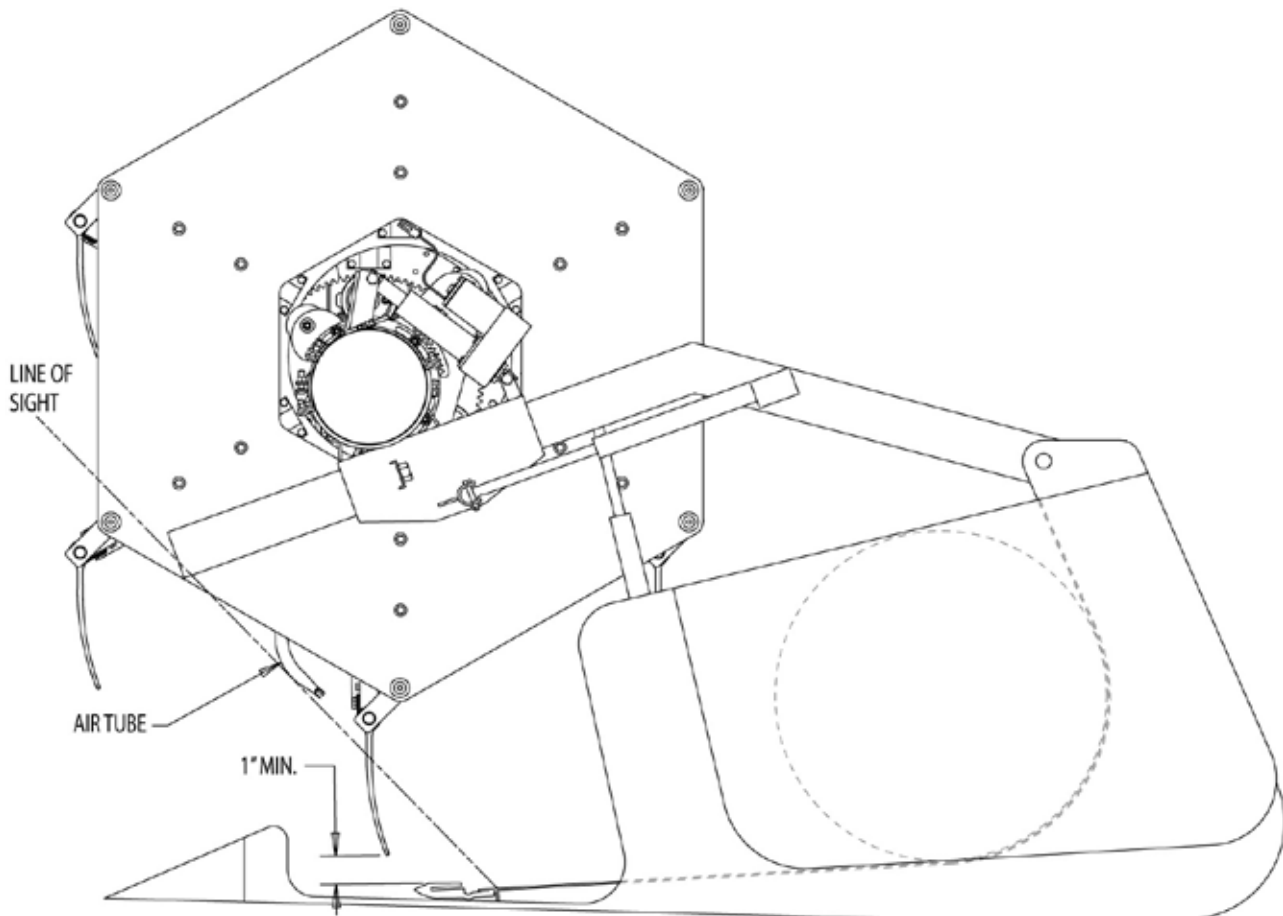

Figure 38, Initial reel adjustment
6. Loosen pivot clamp and adjust so the actuator is in middle of stroke (approx. 2" of actuator shaft exposed) with air tube nozzles pointed at the back of the sickle bar (Figure 38). Retighten pivot clamp.